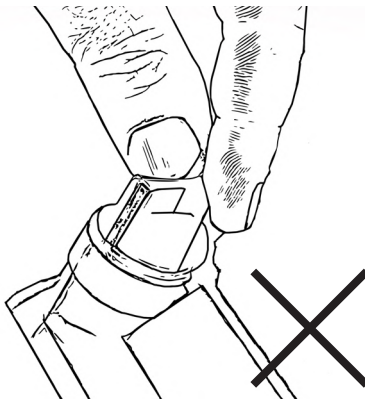

Figure 12
**Never turn the oil filler plug with connected dipstick into the thread when reading the oil level. This leads to an incorrect measurement result, Fig. 12.**